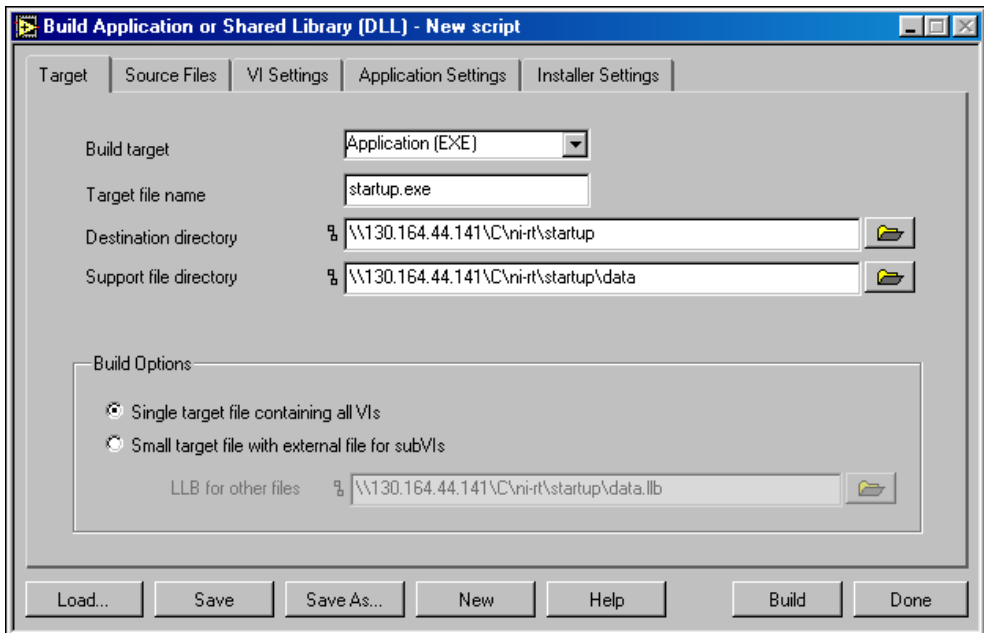

Figure 2-4. Build Application or Shared Library (DLL) Dialog Box
2. Select **Tools»Build Application or Shared Library (DLL)** to open the **Build Application or Shared Library (DLL)** dialog box, shown in Figure 2-4.